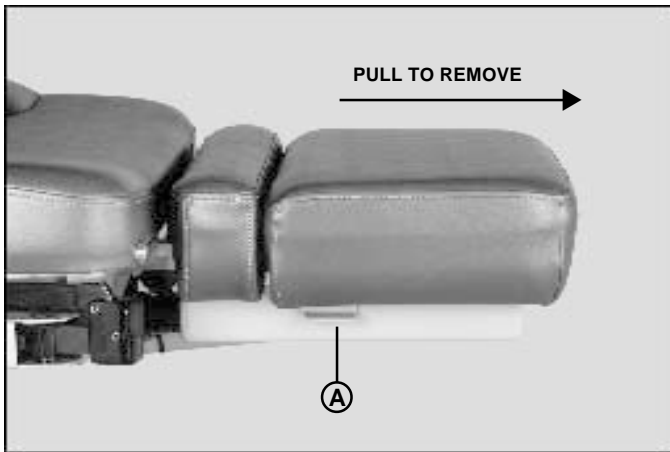
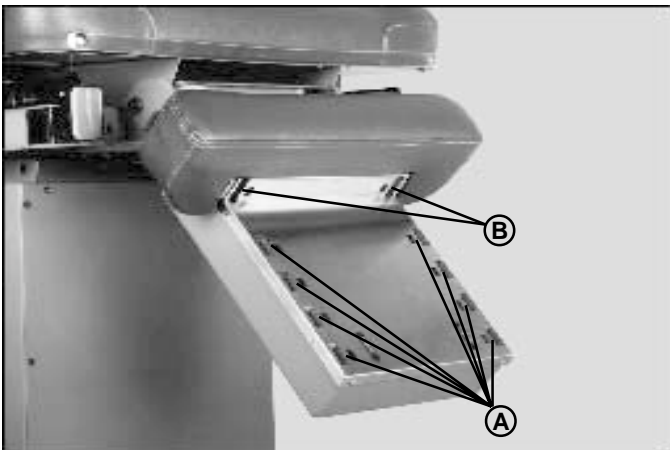
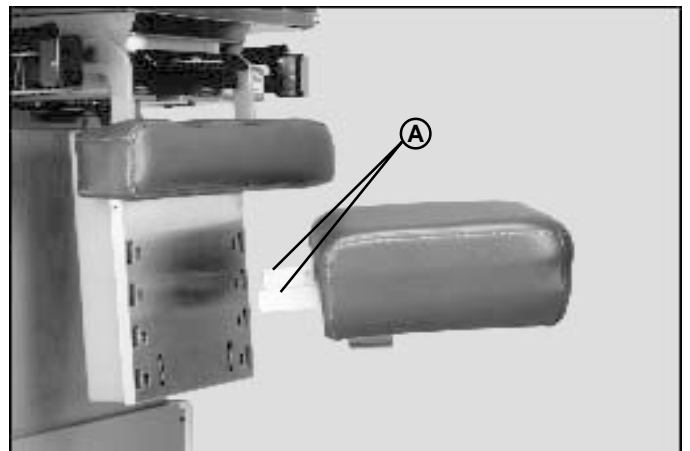

FIGURE 3
FIGURE 4
FIGURE 5
Procto Knee Rest: The stored position of the procto knee rest is illustrated in Figure 3. To remove the knee rest, lift levers (A, Fig. 3) on each side of knee rest. This releases the locking mechanism allowing for removal of knee rest.
The foot/leg section provides four (4) procto knee rest positions (A, Fig. 4). To install the knee rest into either of these positions, align the metal guides (A, Fig. 5) with slots (A, Fig. 4) and insert until you hear the mechanical locking device engage.
Removal of the knee rest from a procto position is the same as removal from the stored position. Lift levers (A, Fig. 3) on each side of knee rest. To return the knee rest support to its stored position, align metal guides (A, Fig. 5) with slots (B, Fig. 4) and insert until you hear the mechanical locking device engage.